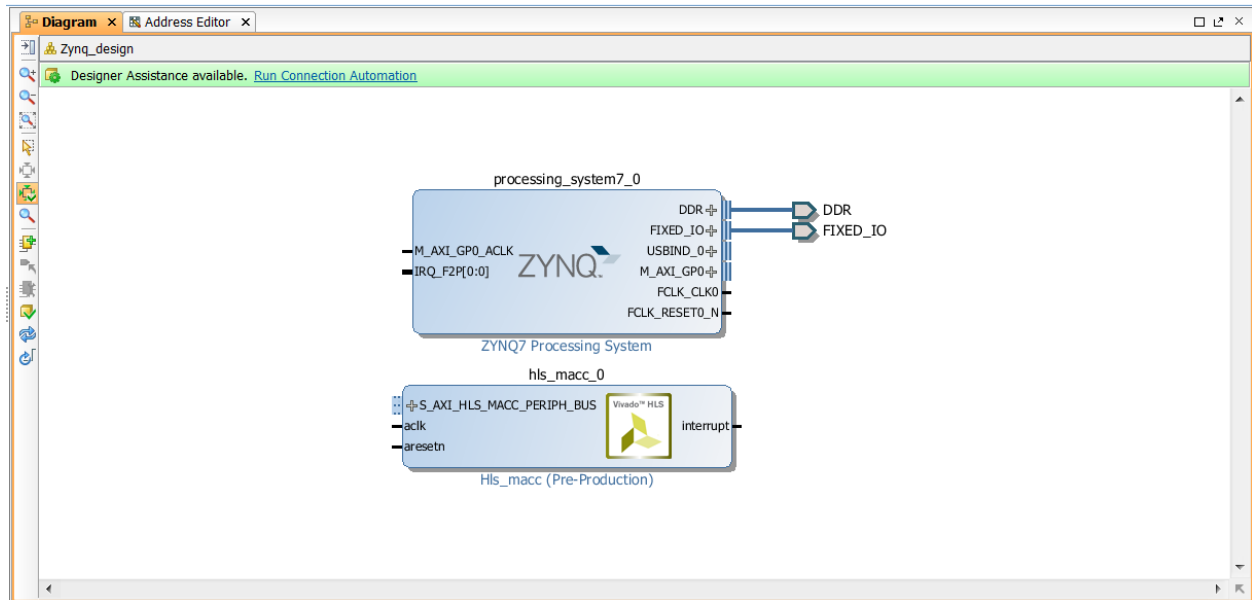

Figure 233: processor and HLS IP
- a. Type “hls” in the Search text entry box and press **Enter** to add it to design (Figure 233).